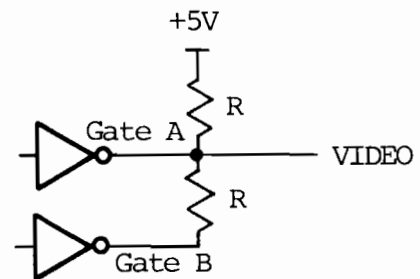

Figure 3-4 Simplified Video Circuit
3.4.5 VIDEO AND COMPOSITE VIDEO FOR TV MONITOR (REGIONS EE 4, 5 AND 6): The video or picture information for the TV monitor is present at the pin-12 output of gate K8. Signal construction is for three intensity levels: black, medium white and white. (The white level appears intensely white whether written on a black or on a medium white background.) The open collector outputs of two gates (K8 pin 12 and K8 pin 2) provide this video capability. The operation of these two gates is similar to that of the simplified circuit shown in Figure 3-4. Here VIDEO will be at black level if gate A is down (zero volts), and will be at medium white level if gate B is down (+2.5 volts). VIDEO will be at white level if gates A and B are both up (+5 volts).